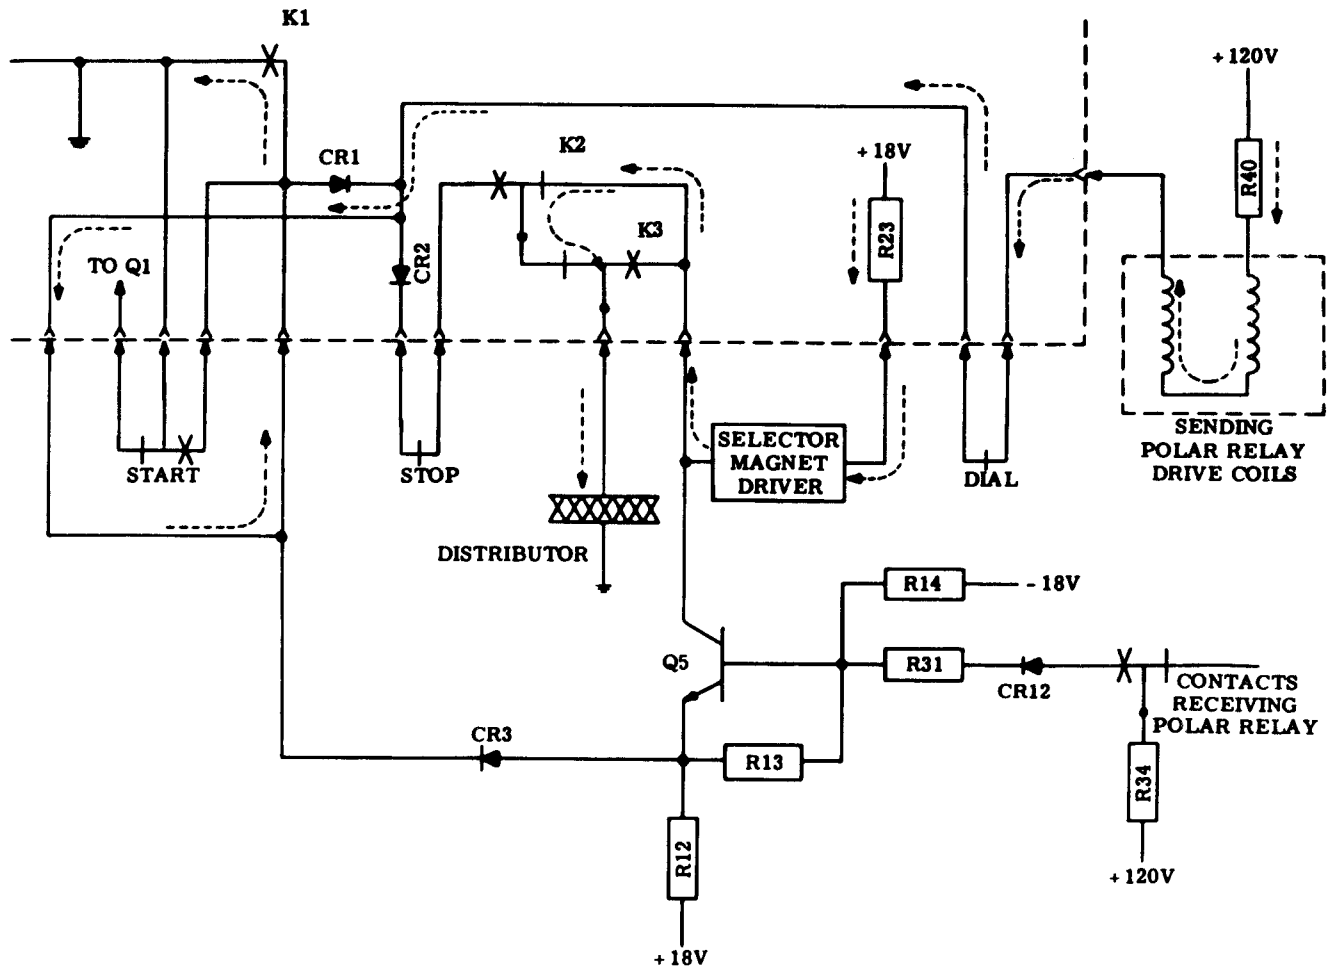

Figure 11 - Sending Loop Control Circuit With Sending Polar Relay
3.71 Figure 11 is a schematic wiring diagram of the sending loop control circuit with the current amplifier and the sending polar relay. Blinding current to the selector magnet driver flows from +18 volts through R23, J5-2, the selector magnet driver, J4-3, and "hl" contact, the "wl" contact, J4-9, and the distributor to ground. No current flows in the drive coils of the sending polar relay, since neither the start contact, the "a" contact, nor the "hl" contact are operated to supply ground.
3.73 A call may be initiated when the call control unit is in either the idle line or local conditions as described earlier. Depressing the START pushbutton will allow current to flow through the drive coils of the sending polar relay. This sending polar relay will then transmit a marking signal on the sending leg. The current path through the coils is shown by the dotted line in Figure 11.
3.74 Operating the START pushbutton will also remove ground from the collector of Q1 in the call control unit. Current to the input of the proceed-to-dial circuit (base of Q1) is supplied from the spacing contact of the receiving polar relay. This is not shown in Figure 11. The proceed-to-dial circuit will not operate until this current is interrupted.
3.77 The dial signaling contacts are in series with the drive coils of the sending polar relay as shown in Figure 11. The dial contacts will thus energize and de-energize this relay whenever current is flowing through them. The make-break signal generated by the dial contacts will be transmitted as mark-space signals by the sending polar relay. These mark-space signals are used by the exchange to make the necessary connection.
3.87 This operation is identical to that of the call control unit without polar adapter except for the current path to the selector magnet driver. This path is shown in Figure 11.